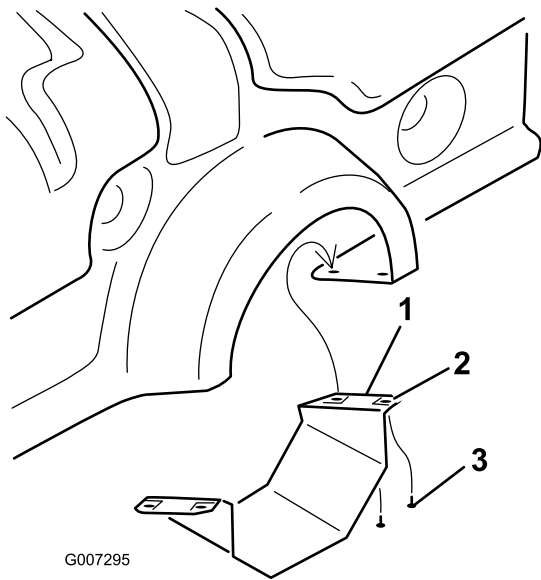

Figure 10
1. On the ProCore 864 only, remove the lower PTO shield (Figure 10).